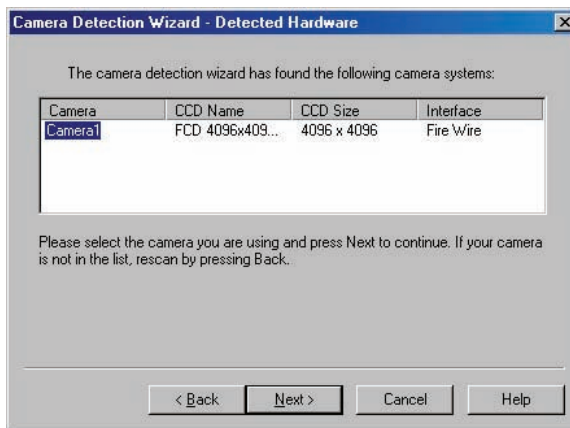

Figure 33. Camera Detection Wizard - Detected Hardware dialog box
10. Start WinView, select Setup from the Hardware menu and rerun the Camera Detection Wizard. You should now see the camera listed on the Detector Hardware dialog box as shown in Figure 33 below.